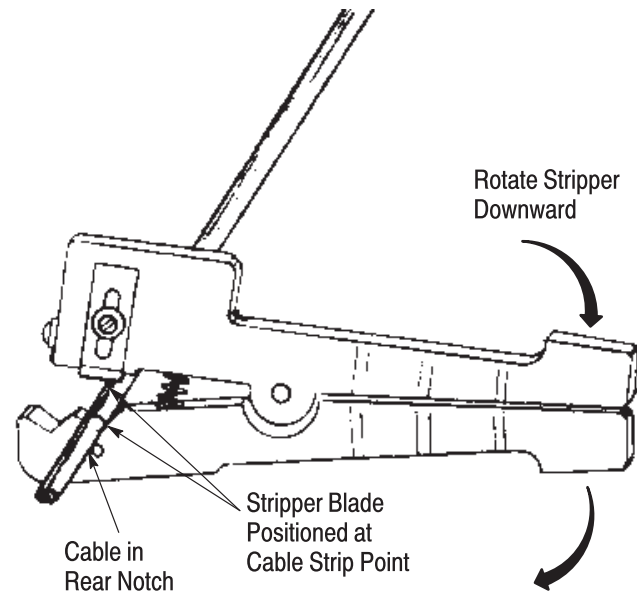

Figure 3
### 3.2. Stripping the Cable (Figure 3)
2. Position the blade at the cable strip point, release the stripper handles, and rotate the stripper downward for several rotations. Refer to Figure 3.